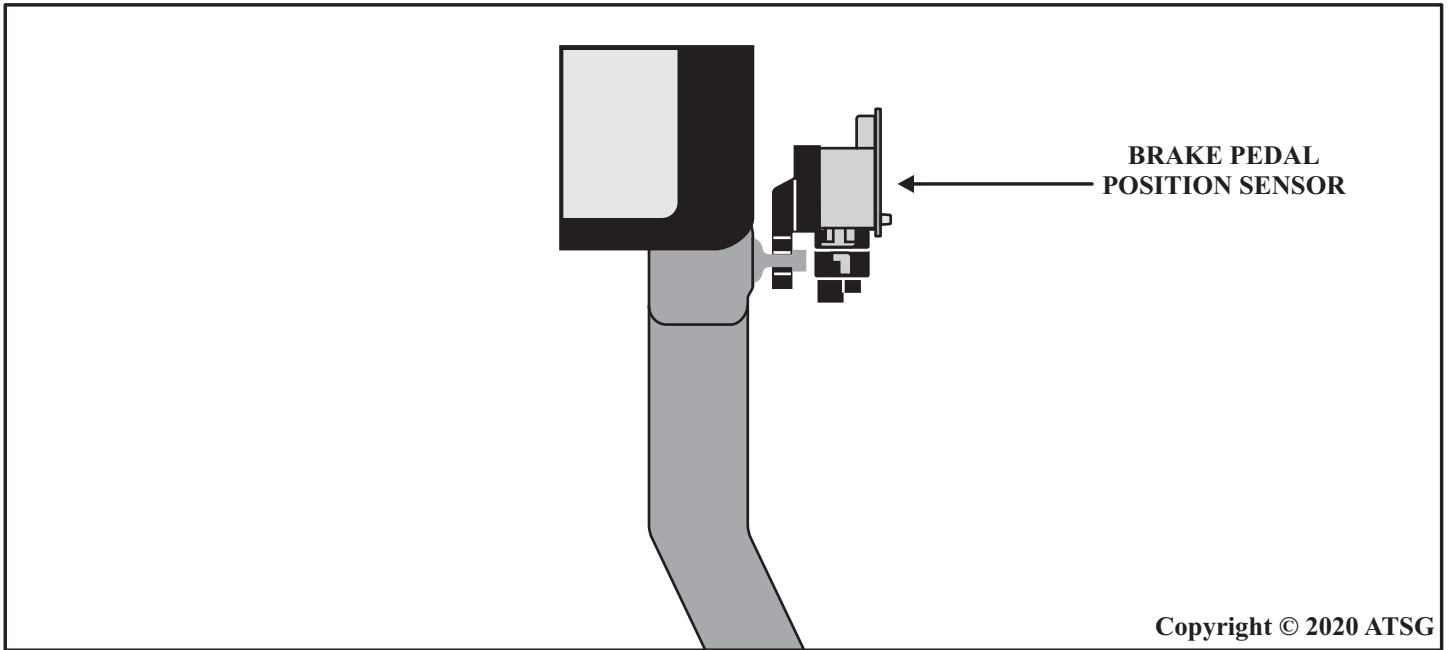

Figure 1
**CAUSE:** Starting in the 2012 model year, the GM Neutral Idle Control feature was introduced which allows the transmission to be put into a neutral state when at a stop with the foot brake applied. This was done as a fuel saving feature. Due to the malfunction of the Brake Pedal Position Sensor (see figure 1 for sensor location), the TCM would react to the voltage variation of the BPPS causing the Neutral Idle Control to engage and release which resulted in the dropping in and out of gear condition.